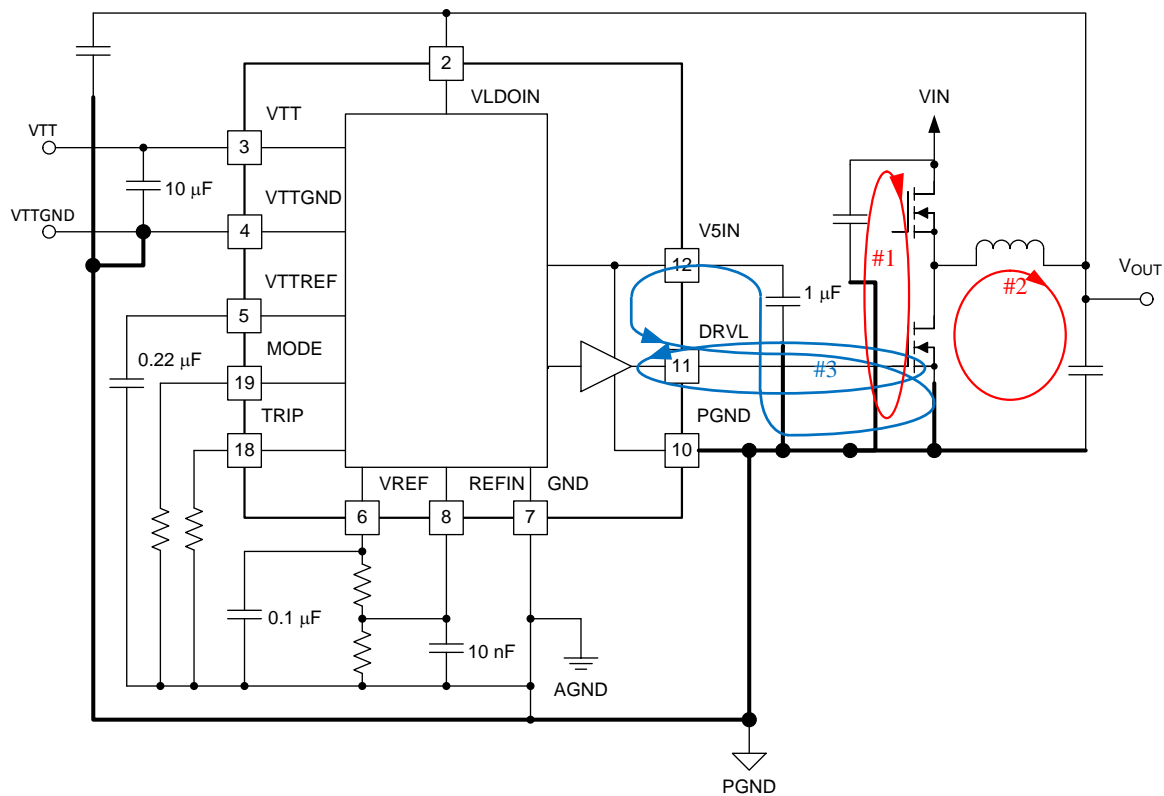

Figure 47. DC/DC Converter Ground System
- The third important loop is of gate driving system for the low-side MOSFET. To turn on the low-side MOSFET, high current flows from V5IN capacitor through gate driver and the low-side MOSFET, and back to negative node of the capacitor. To turn off the low-side MOSFET, high current flows from gate of the low-side MOSFET through the gate driver and PGND pin, and back to source of the low-side MOSFET. Connect negative node of V5IN capacitor, source of the low-side MOSFET and PGND pin as close as possible. (Refer to loop #3 of Figure 47)